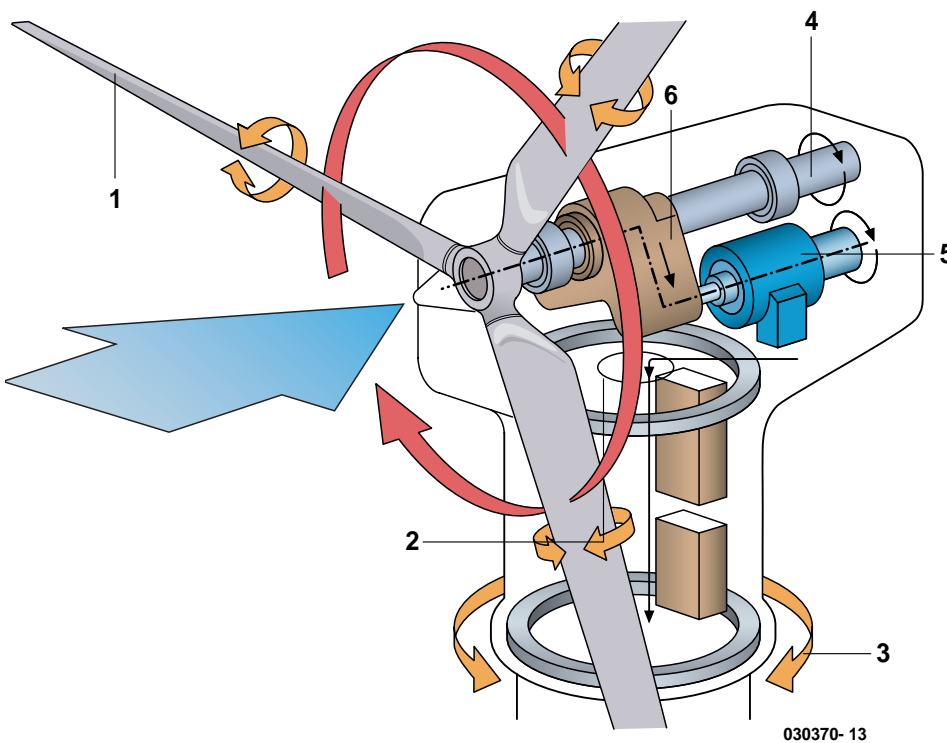

Figure 2. Basic design of a 3-blade turbine.
Two-bladed turbines are more common as they produce a higher maximum speed, although the three-bladed design of **Figure 2** makes for greater stability and so more vibration-free operations. The power produced is proportional to the square of the blade diameter which means that - for a standard horizontal axis turbine - doubling the area of the circle traced by the rotating blade tip, doubles the power generating potential.
In Figure 2, the three-blade turbine (1) can have the attitude of its blades altered. By changing the pitch (2) the blades can operate at maximum efficiency in changing wind conditions.